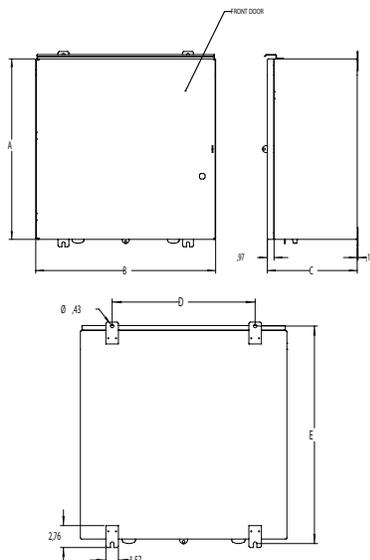

Figure 1
2. Select a mounting location that is at least 4 feet from the bottom of the enclosure to the ground and will provide suitable strength and rigidity for supporting all contained wiring and components. Figure 1 shows the mounting dimensions. See Table 1 for proper mounting locations.